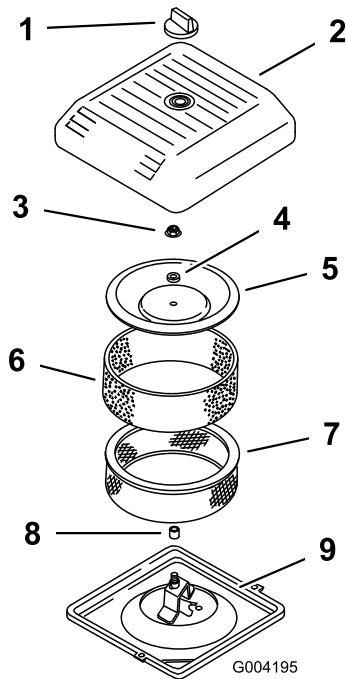

Figure 14
2. Unscrew the knob and remove the air cleaner cover (Figure 14).
3. Carefully slide the foam pre filter off of the paper element (Figure 14).
4. Unscrew the cover nut and remove the cover, spacer and paper filter (Figure 14).
2. Place the air cleaner assembly onto the air cleaner base (Figure 14).
3. Install the cover, spacer and secure it with the cover nut (Figure 14). Torque the nut to 95 in-lb (10.7 N-m).
4. Install the air cleaner cover and secure with the knob (Figure 14).